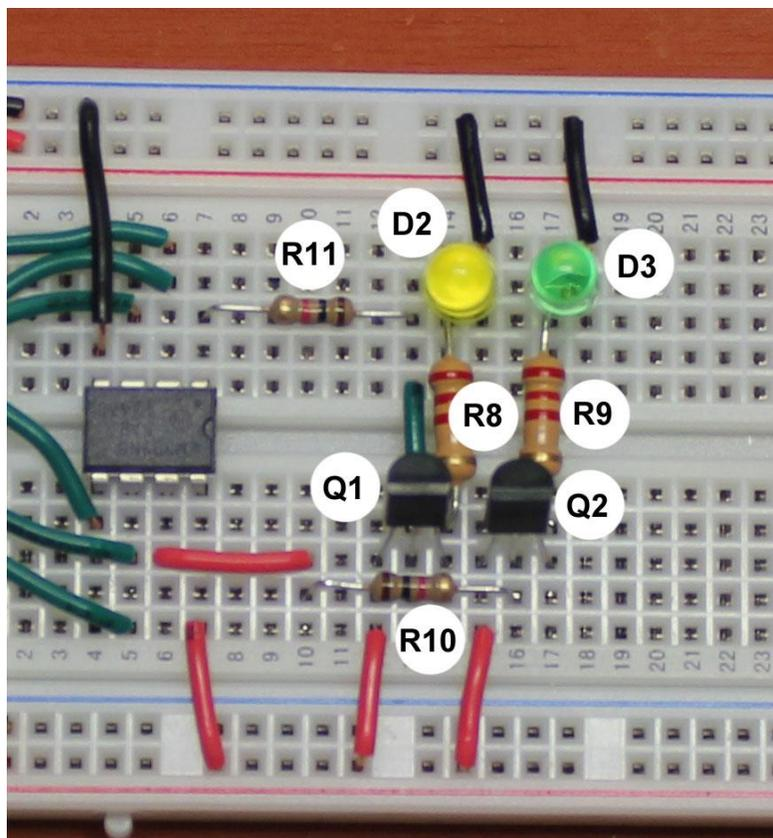

Figure 6
3. Insert R11 into the board, with one lead in the same row as pin #1 of the IC chip (Figure 6 – you may notice that the resistor in the photo is 1000 ohms but you will use a 2200 ohm resistor)